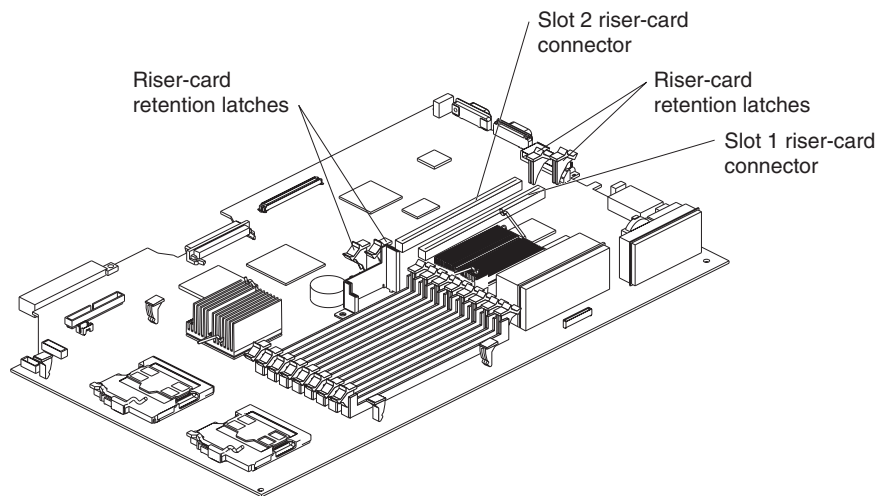

Figure 19. Adapter connectors and latches
Figure 19 shows the location of, and access to, the riser card retention latches for the slot 1 and 2 riser cards.
5. Determine which slot you want to use for the adapter, either slot 1 for a low-profile adapter or slot 2 for any type of adapter. See Figure 19 on page 34 for the locations of slot 1 and slot 2 on the system board.